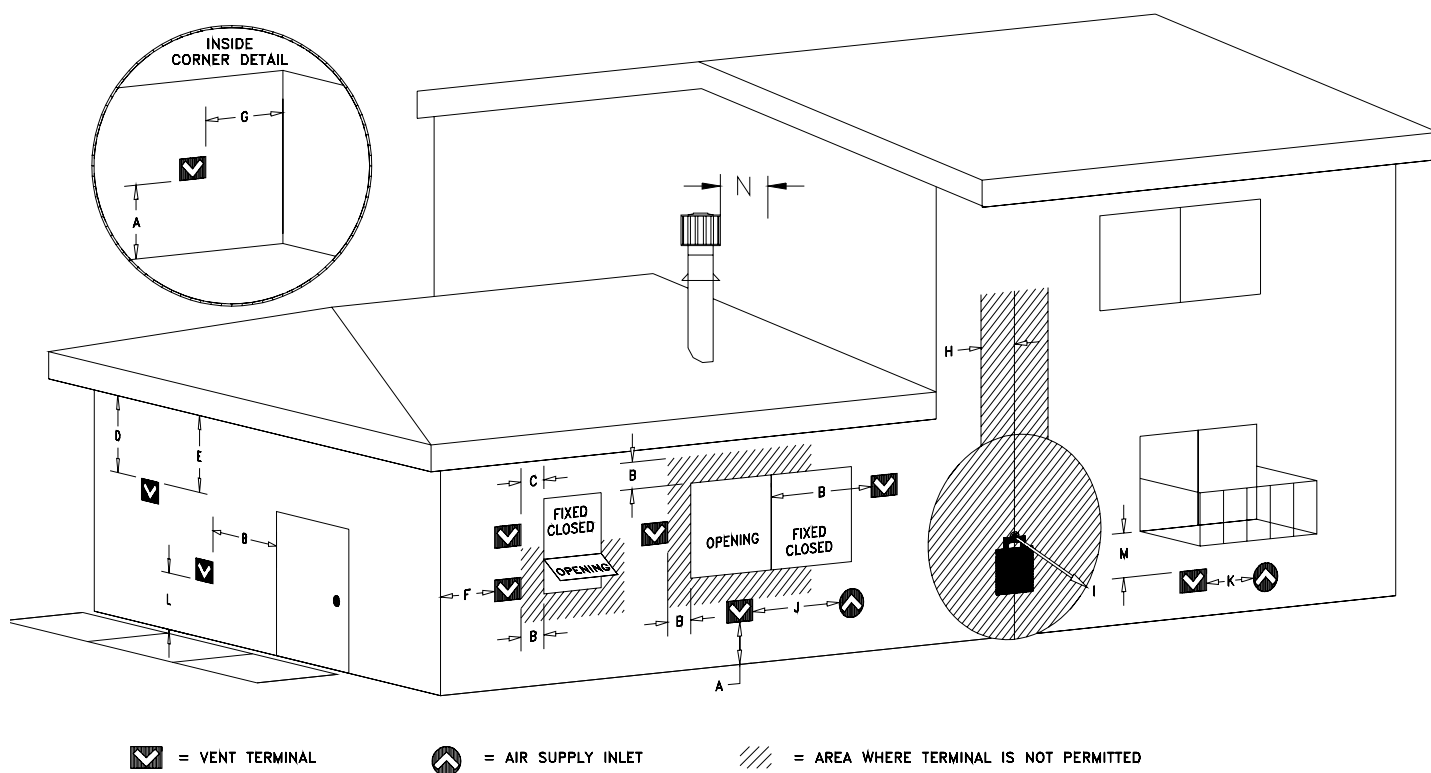

Figure 12: Exterior Vent
This Mendota Fireplace can be vented using DURAVENT brand coaxial pipe (4"X6-5/8") off the top. Use only Mendota specified vents and vent caps when installing your fireplace. Closely follow venting locations, directions and requirements. Observe the restrictions relating to vent position on exterior of home (see Figure 12). Be sure all vent pipe sections are fully twist-locked and leak-proof. Be sure 1000 ° Silicate Stove Sealant is used on the inner pipe joints of all Simpson DuraVent pipe components and all adjustable pipe sections.
1. Position fireplace in desired location. See Figure 12 for guidelines on proper vent cap placement on the exterior of home. Check to determine if wall studs are in the way when venting system is attached. If this is the case, you may want to adjust the fireplace location or modify the exterior wall framing to allow the vent system to penetrate the wall.